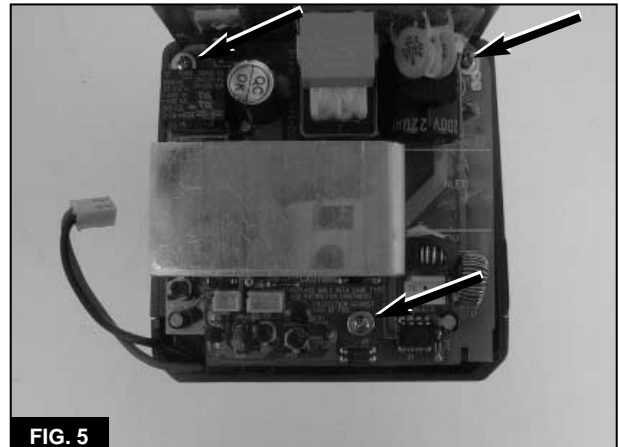
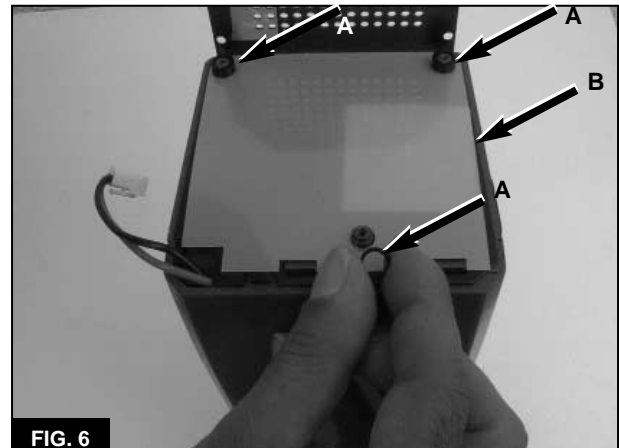

FIG. 5
FIG. 6
5. Remove the three charger-board mounting screws (Figure 5), and remove the charger board. Do not lose the spacer (A, Figure 6) from each mounting stud.
1. Be sure the insulator (B, Figure 6) is in place in the battery pack.
2. If removed, install the spacer (A, Figure 6) onto each mounting stud in the battery pack.
3. Set the charger board into place on the mounting studs. Secure the board in place with the charger-board mounting screws and washer (Figure 5).